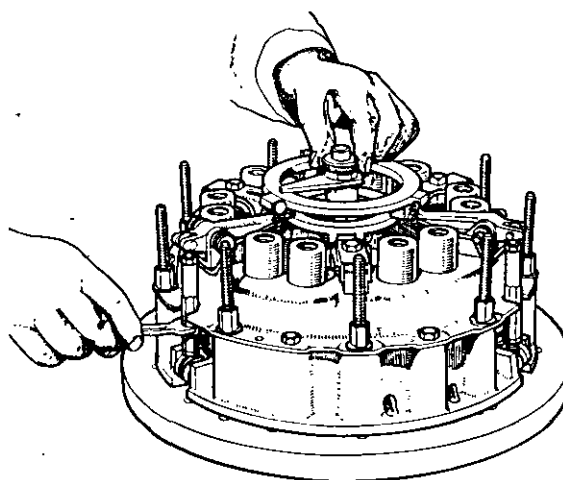

Figure 43. SETTING PTO RELEASE LEVER HEIGHT
11. Remove actuator, screw centre pillar into adaptor and fit spacer, Code 16X (some early spacers were marked "Code 16" only), on pillar — recess in spacer towards adaptor. Fit the long setting finger on centre pillar and set the three toggles so that when setting finger is rotated, whilst being held firmly and squarely against spacer, it just touches the lever plate all the way round. Figure 43. When the lever setting is correct, lock toggles by firmly tightening all six locknuts.